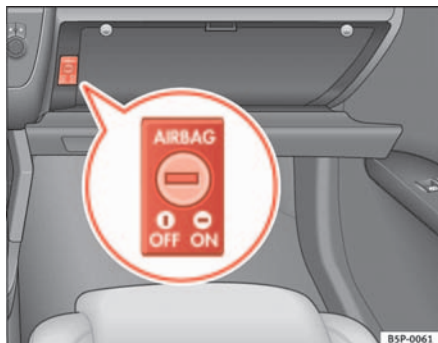

Fig. 26 In the glove box there is key switch for disabling and enabling the airbags on the front passenger side
- Turn the ignition switch in the key operated switch in the glove box to the position **OFF** ⇒ fig. 26.
- Turn the ignition switch in the key-operated switch in the glove box to the position **ON** ⇒ fig. 26.